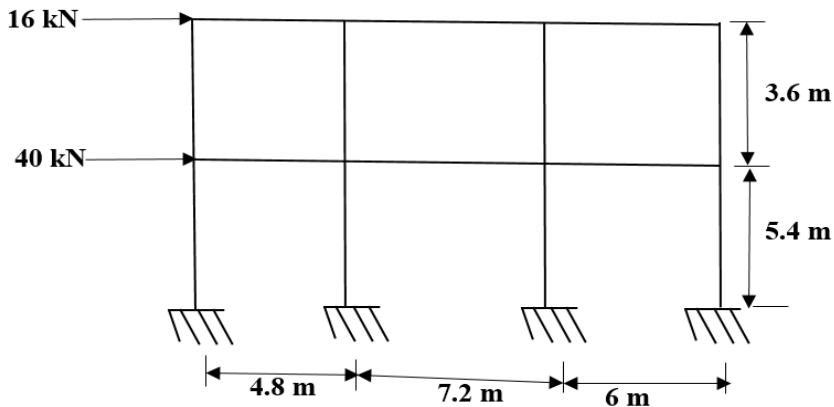

Figure. 1
- b) Analyse the frame in Figure.1 using portal method. Beams and columns have same size.